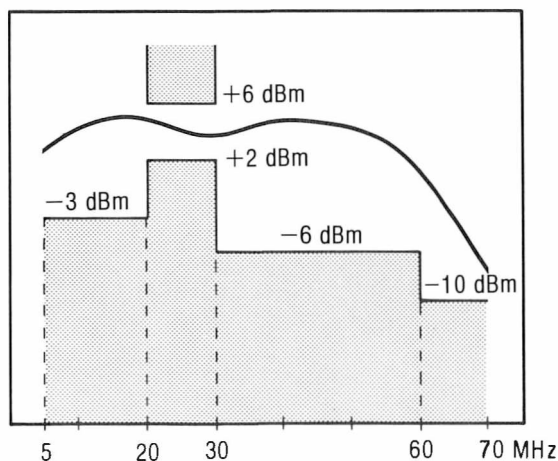

Figure 5-22. IF Frequency Response Limits
16. Slowly tune the Sweep Generator 8340A using the rotary knob while monitoring the display on the Spectrum Analyzer. (Maximum hold may be used on the 8566A Spectrum Analyzer to trace out the IF response as frequency is changed.) Verify that the IF frequency response falls within the limits shown in Figure 5-22. If it does not, select new values for A48C22 and A48R22 to adjust the shape of the response (particularly in the 20 to 30 MHz region). Readjust A48R1 IF GAIN control if necessary.